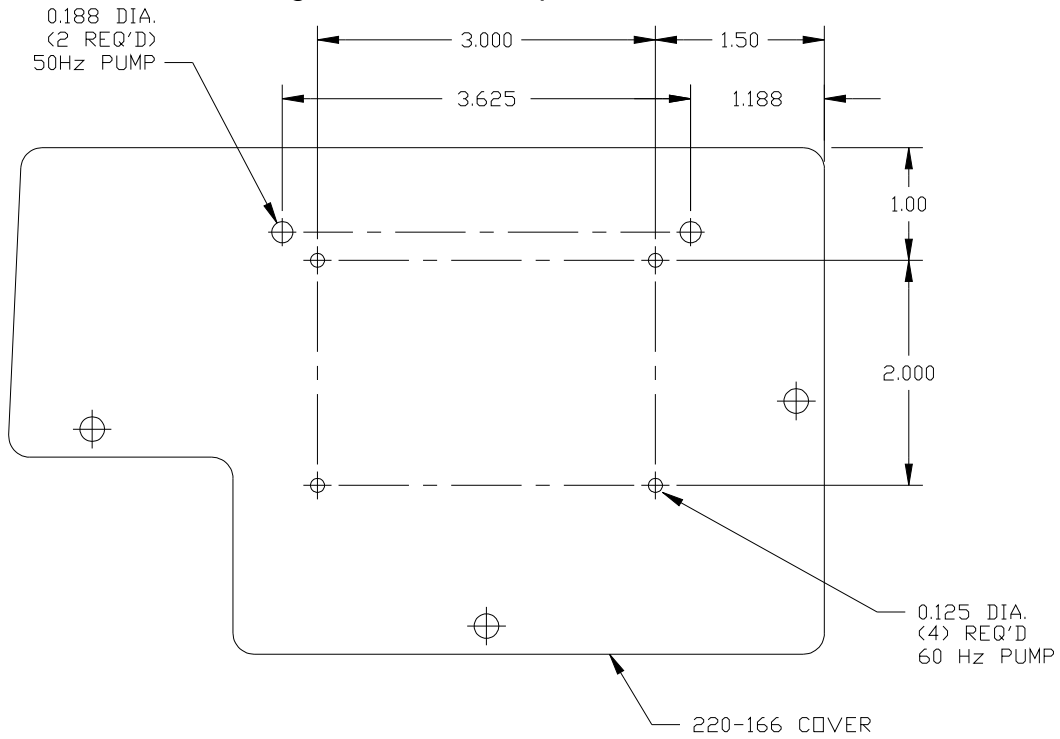

Fig. D1 Electrical Cover Modification 50Hz & 60Hz, (Model A Perforators)
17. Use the supplied template (page 12, Fig. D1) and drill the switch enclosure mounting holes in the DC control cover.
*For Model **A perforators 50Hz** only;* use the supplied template (page 12, Fig. D1) and drill the two 3/16" dia. switch enclosure mounting holes in the DC control cover. Attach switch box to DC control cover with only two screws and re-attach the cover.